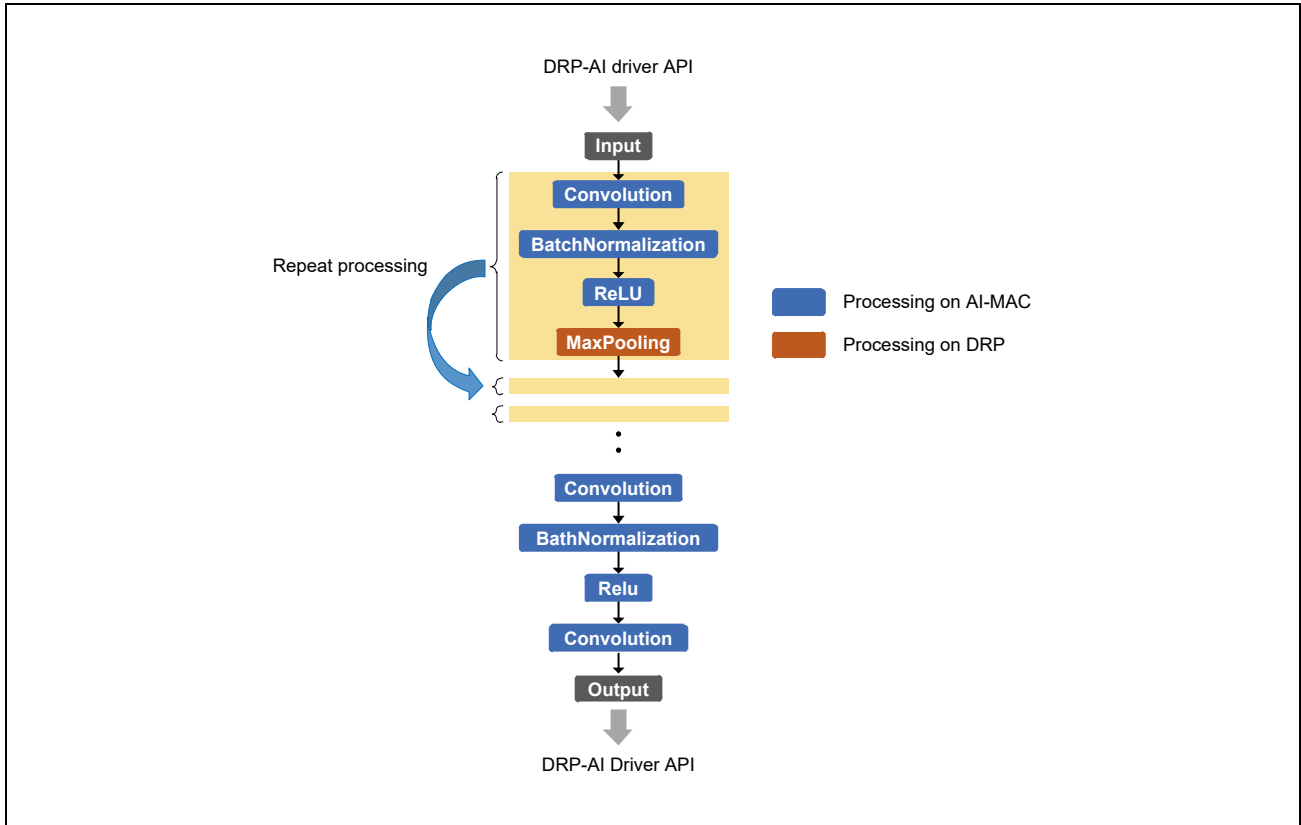

Figure 20.3-1 Inference Operation Example on DRP-AI
**Figure 20.3-1** shows the inference operation example. The DRP-AI can perform AI inference with the DRP and AI-MAC. Use the driver provided by Renesas to operate this unit.